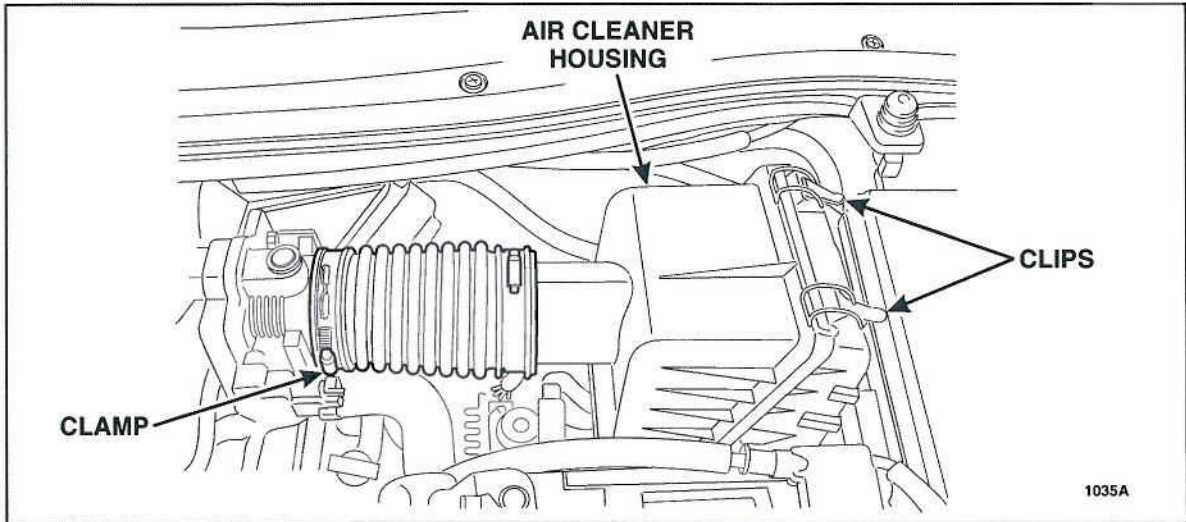

FIGURE 1
7. Remove the air cleaner housing. See Figure 1.